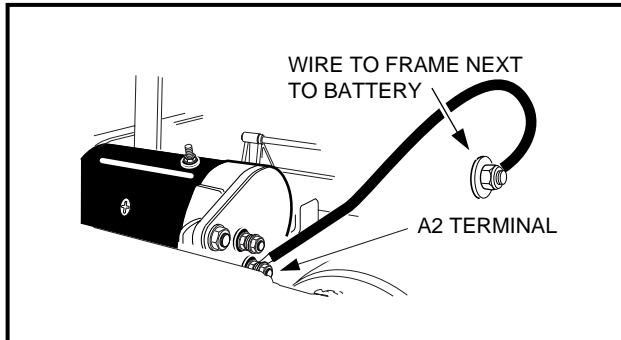

Figure 11-24 Test Starter/Generator Ground Strap
2.1. Set the multimeter to 200 Ω (ohms). Place the red (+) probe on the (A2) terminal of the starter/generator and place the black (-) probe on the vehicle frame (**Figure 11-24, Page 11-25**). The reading should be continuity. If the reading is incorrect, clean and tighten wire connections. If the connections are good and the reading is incorrect, repair or replace the wire.